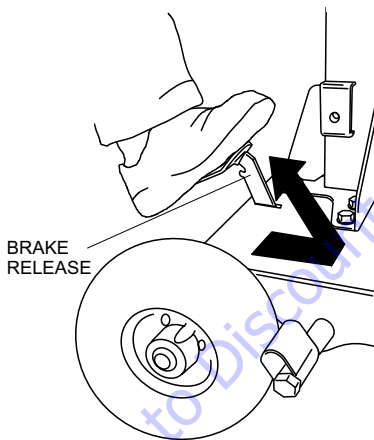

Figure 13. Releasing Brake
1. Step on the brake pedal, hold then release. See Figure 13. This will disengage the braking mechanism and will allow the GBC8LED to be moved.